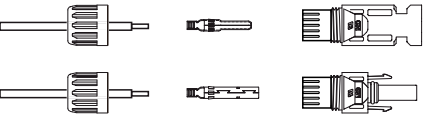

Figure 4.10 Disassemble the Connector Cap nut
1. Strip off the DC wire for about 7mm, Disassemble the connector cap nut. (see Figure 4.10)